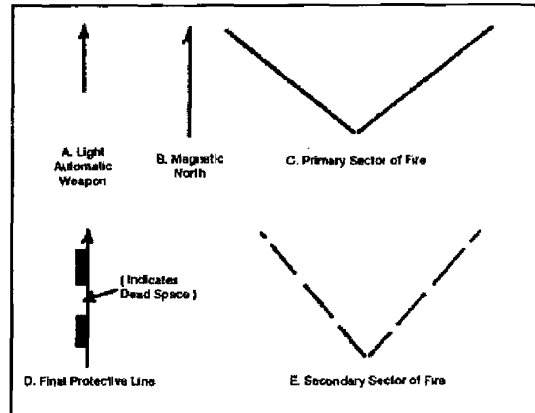

Figure 071-000-0005-1. Symbols.
4. Write all necessary information on the range card. Prepare a duplicate range card for the platoon leader. Include on both copies all sketches, symbols (figure 071-000-0005-1) and data.
- (1) Center the machine gun position at the bottom of the sketch.
- (2) Include any prominent natural and man-made features that a target could use to take cover.
- c. Write the following information in the top portion of the range card (figures 071-000-0005-2 and 071-000-0005-3):